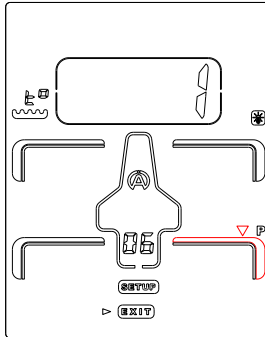
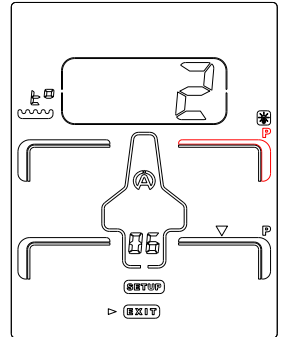

Figure 18
Figure 19
- 4) Press the central button  to confirm your choice (figure 18).
After confirmation, the icon « P » selected freezes, the number 1 show off in the « CADRAN ». Then, another icon appears automatically, blinking, (red arrow, figure 18). If the place of the second capture doesn't suit you, same thing, repeat the operations as explained above (figure 19).